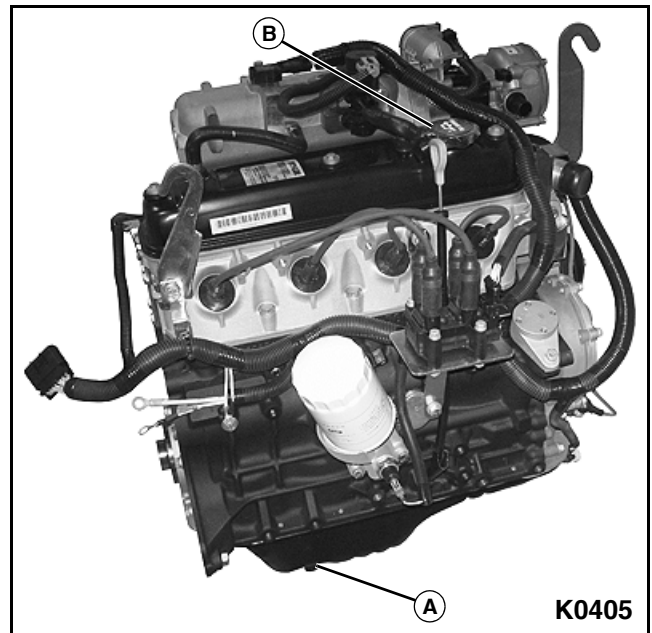

Figure 5-14
2. Place a drop cloth and collection container beneath the oil drain plug (A). **See Figure 5-14.**